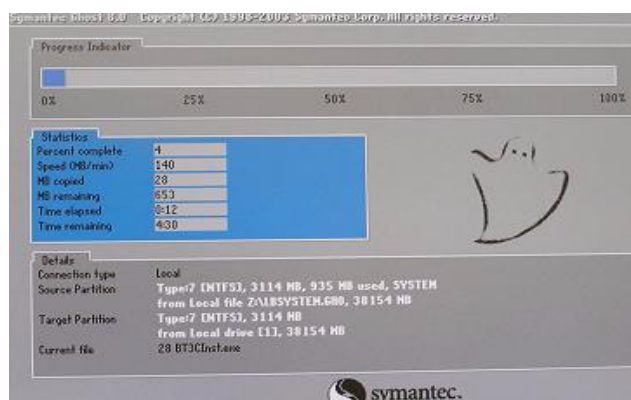

Figure 3-21 System CD loading
- 7.) System CD will be loaded as shown in Figure 3-21 on page 3-29.